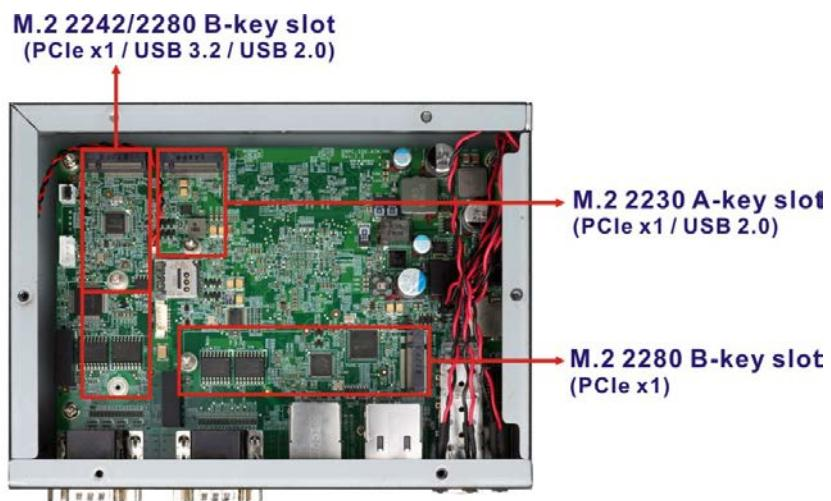

Figure 3-2: M.2 Slot Locations
Step 2: Locate the M.2 slots on the motherboard (**Figure 3-2**). Remove the corresponding on-board retention screw.